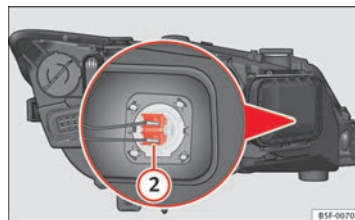

Fig. 139 Main beam bulb
- Slide connector ⇒ Fig. 139 ② to the left or right and pull.